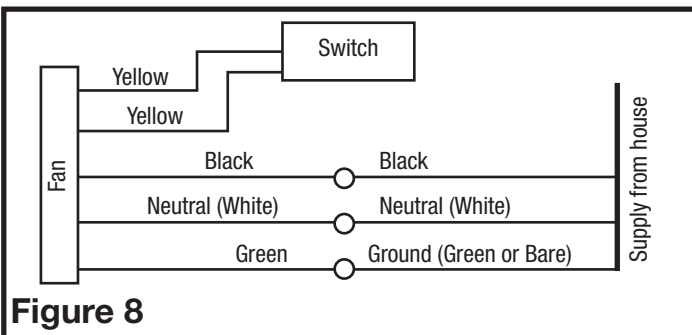

Figure 8
2. **Continuous Ventilation:** For two speed fans wired for continuous ventilation, connect the White wire of the fan to the White (Neutral) wire from the power source. Connect the ground wire from the house to the green wire from the fan housing. Run 2 wires from a properly grounded wall switch (not included) to the fan. Connect the Black wire of the fan to the Black wire (Hot) from the power source. Connect the Hot Yellow wire from the fan to the input of the switch. Connect the second Yellow wire from the fan to the output side of the switch. Closing the switch will change from normal to high speed (**Figure 8**).